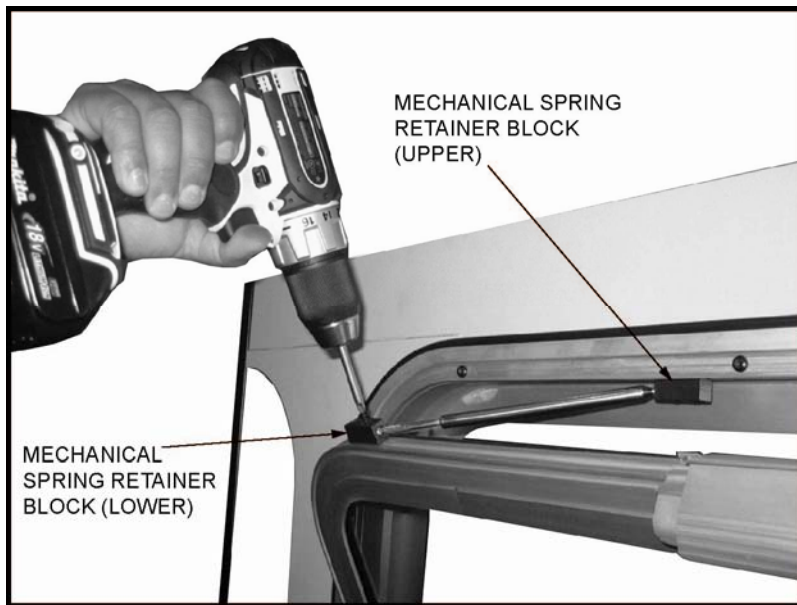

FIGURE 3: HINGE PROP BLOCK REMOVAL
4. Refer to **Figure 3**. Remove screws that hold the (lower) Mechanical Spring Retainer Block onto Hopper Window, using a cordless driver with a Phillips driver bit (Size P2).
7. Remove screws and both (Upper) Mechanical Spring Retainer Blocks, as shown in **Figure 3**. Properly discard parts.